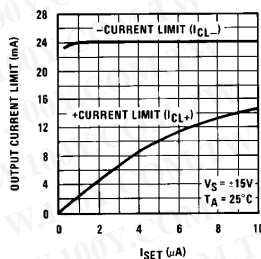

FIGURE 1. Output Current Limit vs  $I_{SET}$
**Output Voltage Swing vs  $I_{SET}$ :** For a desired output voltage swing the value of the minimum load depends on the positive and negative output current capability of the op amp. The maximum available positive output current, ( $I_{CL+}$ ), of the device increases with  $I_{SET}$  whereas the negative output current ( $I_{CL-}$ ) is independent of  $I_{SET}$ . Figure 1 illustrates the above.